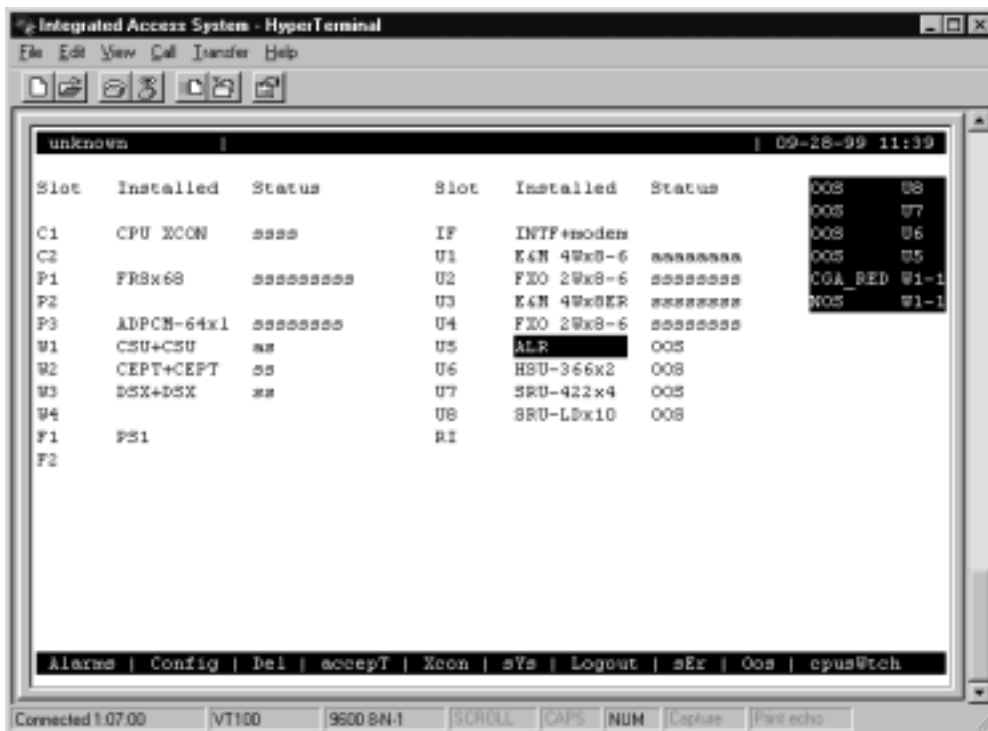

Figure 4-23. Typical System Main Screen with Alarms
- The system automatically builds the necessary time slot structure. Since the user slots are vacant, the system will register Out Of Service (OOS) alarms for each of the four cards, as shown in Figure 4-23.